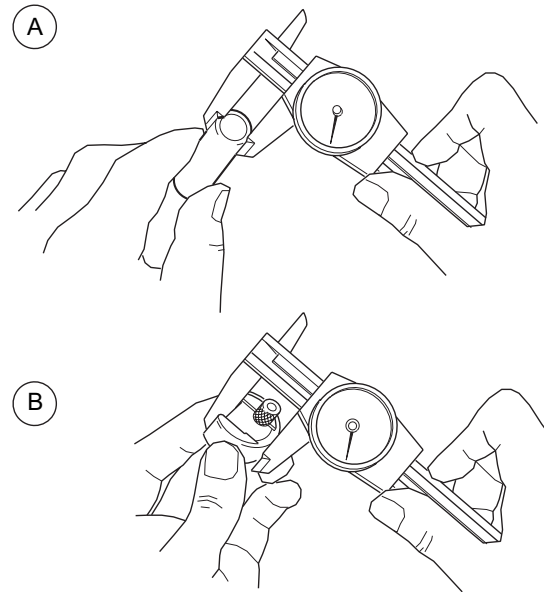

Figure 7 Setting the Arc Gap Gage
1. Measure the outside diameters of the work pieces being welded using a caliper or micrometer. See Figure 7(A). The M100 will calculate the arc gap automatically for you during an Auto Entry weld development. This is based on the standard OD.
3. Adjust the arc gap gage to match the setting from Table 3. See Figure 7(B).